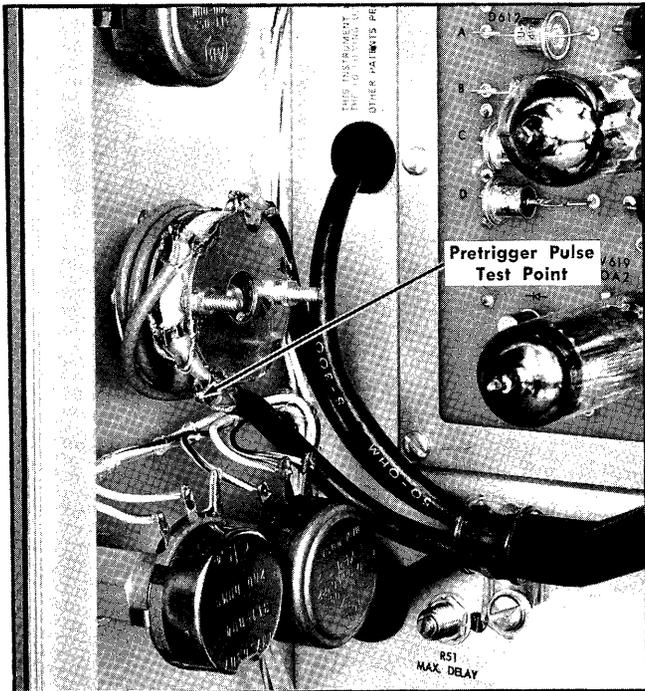

Fig. 5-3. Location of Pretrigger Pulse test point on FIXED INCREMENT switch.
c. Connect the test probe tip to the Pretrigger Pulse test point on the Fixed Increment switch (see Fig. 5-3).